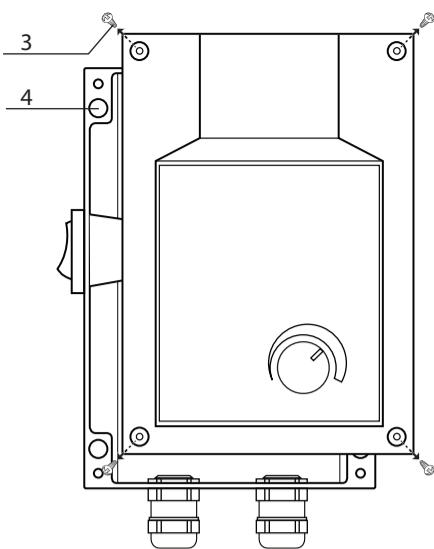

Fig.2
- Remove the front panel by unscrewing self-tapping screws 3 (see Fig. 2);
- Fasten the controller to the mounting surface using mounting holes 4 (see Fig. 2) in the rear wall of the unit (see Fig. 2);